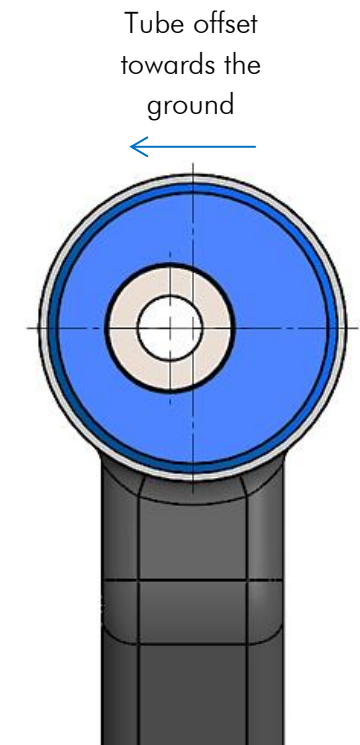
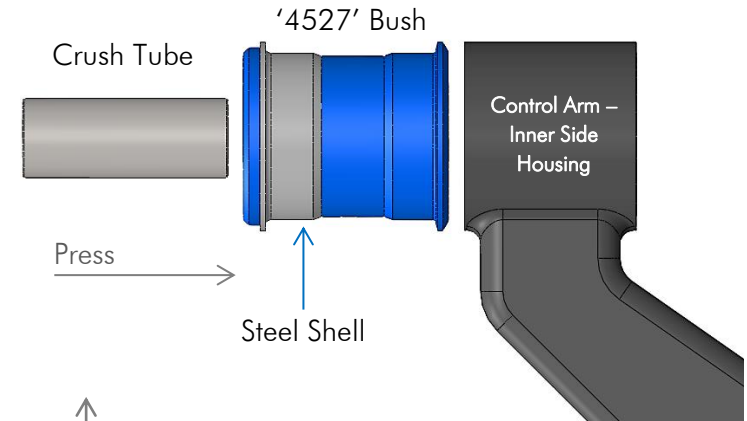

Figure 01 – RHS Control Arm Inner Side Front View
Figure 02 – RHS Control Arm Inner Side Top View
- Push the new '4527' bushes according to the Figure 02, and with reference to the Figure 01, adjust the new bush with the offset bore towards the ground of the vehicle before pressing the steel shell part into the arm. **Note** that the steel shell is the last part of the bush to be pressed into the housing;